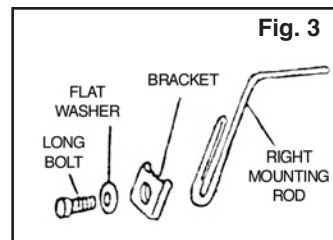
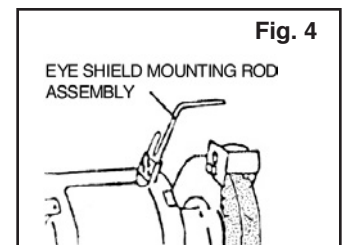

Fig. 3
Fig. 4
**Note:** There is a left and right eye shield mounting rod. Examine Figure 3 to ensure that you install them correctly. The one pictured in Figure 3 is for the right wheel guard as you face the front of the tool. Assemble one rod, one bracket, one bolt and one flat washer as shown and install it to the wheel guard of the grinder. Position it with the arm high, as shown in Figure 4, and tighten the bolt securely.